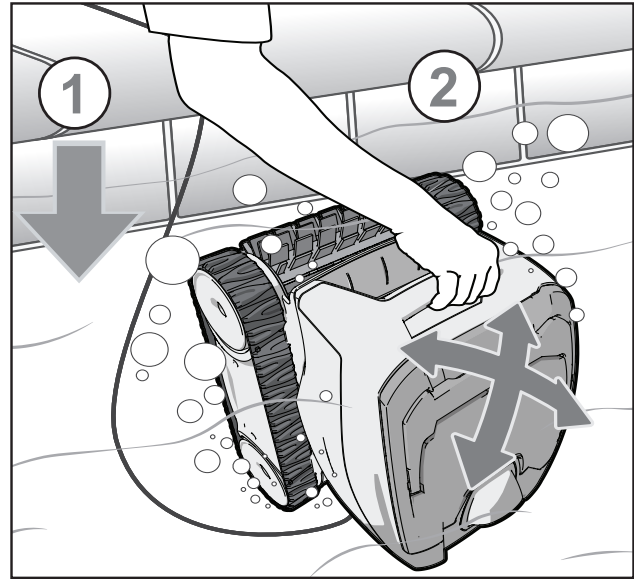

Figure 3. Submerge and Remove Trapped Air
1. Submerge cleaner vertically (1) and hold it under the surface, moving gently from side to side (2) until the bubbles stop to remove any air trapped inside (Figure 3).